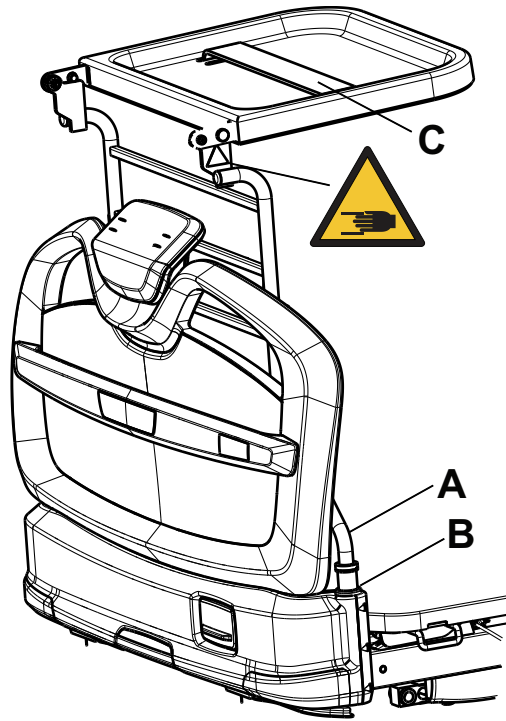

Figure 28 – Attaching the defibrillator tray
2. Insert the tray weldment frame (A) into the traction posts (B) at the foot end of the product (Figure 28).
**Note** - Always secure the equipment to the defibrillator tray with the strap (C) when in use.
2. Using the strap (C), strap the defibrillator to the defibrillator tray (Figure 28).